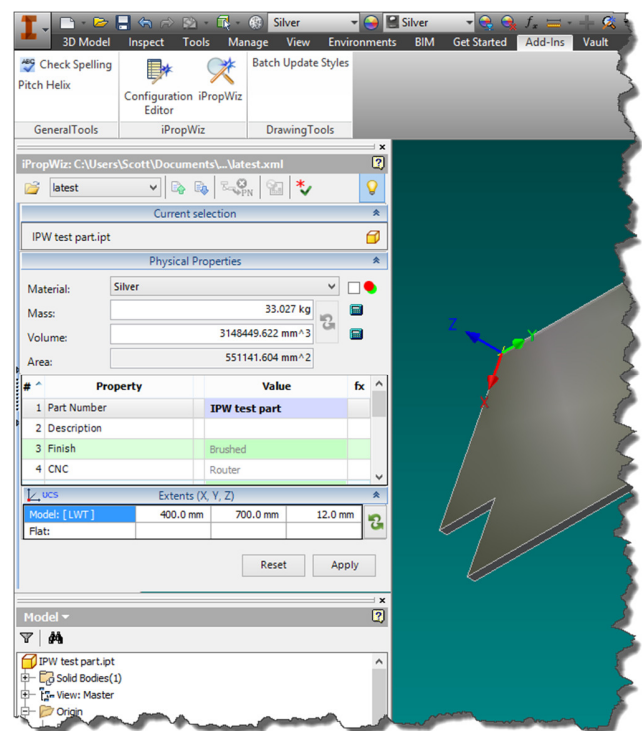

Figure 10: The PE is now dockable & modeless
- The Property editor is now a modeless dockable window (Figure 10). Making property management omnipresent.